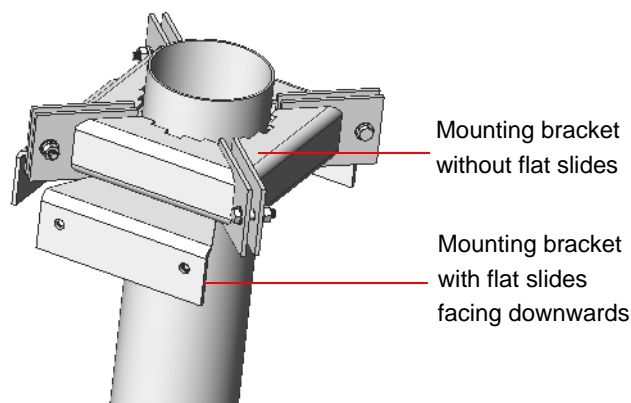

Figure 30: Assembling the Upper Mounting Brackets
- 2 Assemble the upper mounting brackets at the desired location on the pole, three brackets with the flat slides facing downward and one without it. Tighten the screws (Figure 30).